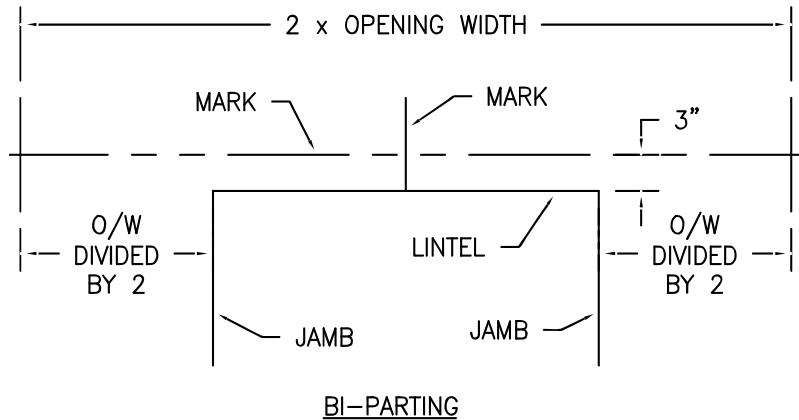

FIG. 1a
- Using a level, make a vertical line parallel to the doorjamb at a distance of half the opening door width from jamb. Repeat for other side (Fig. 1a).
- Using a level, make a horizontal line 3" above lintel and right across from one vertical line to another (Fig. 1a).
- Make a centre mark indicating the center of the door opening width (as shown) (Fig. 1a)